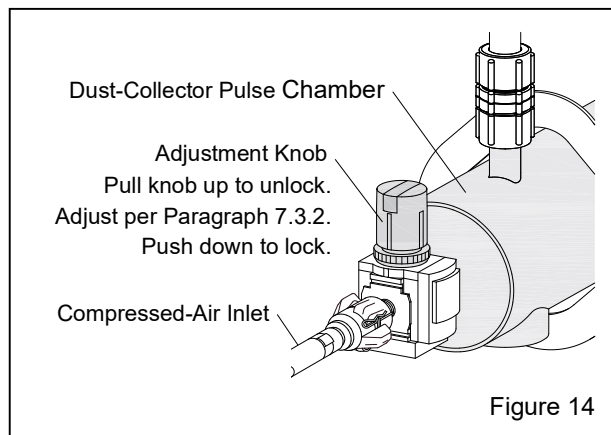

Figure 14
7.3 Pulse Pressure – Figure 14